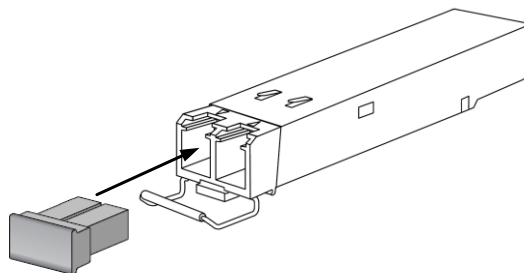

Figure 14: SFP+ Module with bale clasp open
5. Insert the clean dust covers into the module, as shown in Figure 14.